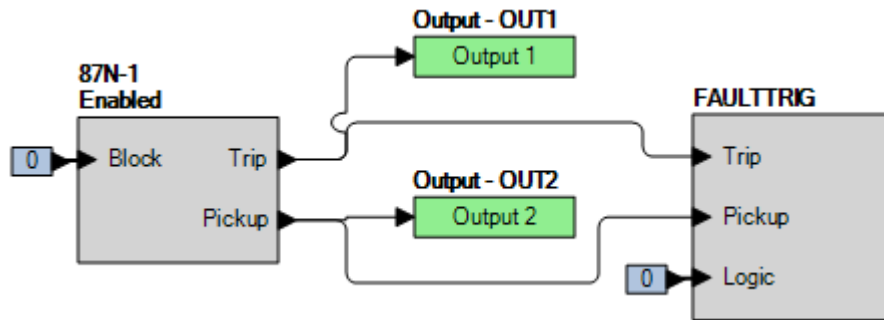

Figure 70-1. BESTlogicPlus Settings
Step 2: Use BESTCOMSPiplus to configure the BESTlogicPiplus programmable logic shown in Figure 70-1.
- Step 3: Prepare to monitor the 87N-1 function operation. Operation can be verified by monitoring OUT2 (see Figure 70-1).
- Step 1: Use BESTCOMSPPlus to verify the operational settings in Table 70-1 and logic in Figure 70-1. Reset all targets.